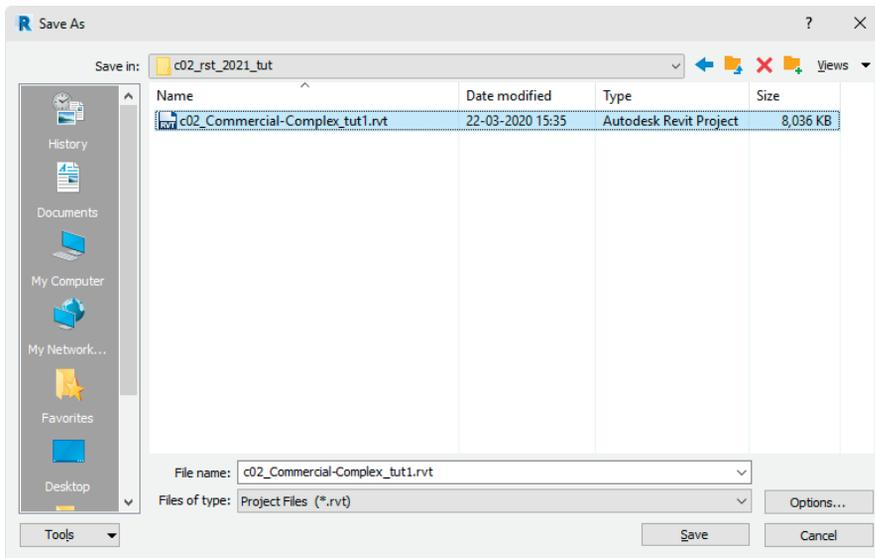

Figure 2-34 The **Save As** dialog box
3. Open the *rst_2021* folder and then create a sub-folder with the name *c02_rst_2021_tut*. Next, open the created folder and save the file with the name *c02_Commercial-Complex_tut1.rvt* (For Imperial), refer to Figure 2-34. For Metric, save the file with the name *M_c02_Commercial-Complex_tut1.rvt*.